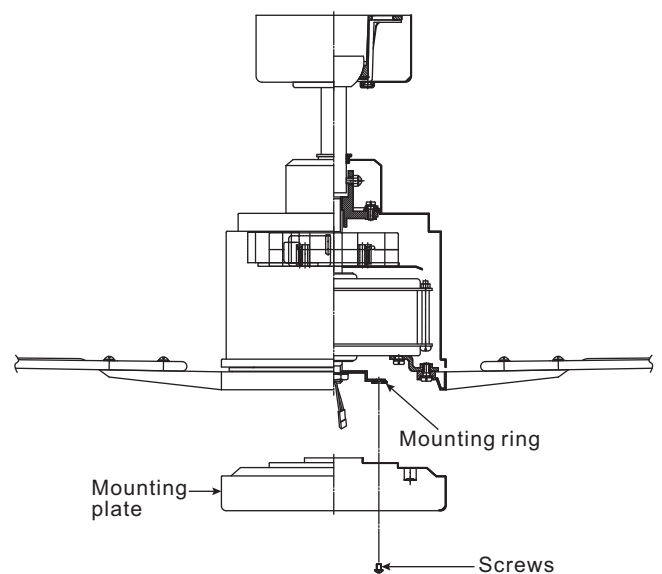

Figure 13
**Step 2.** Place the key holes on the mounting plate over the 2 screws previously loosened from the mounting ring, turn mounting plate until it locks in place at the narrow section of the key holes. Secure by tightening the 2 screws previously loosened and the one previously removed. (Fig. 13)